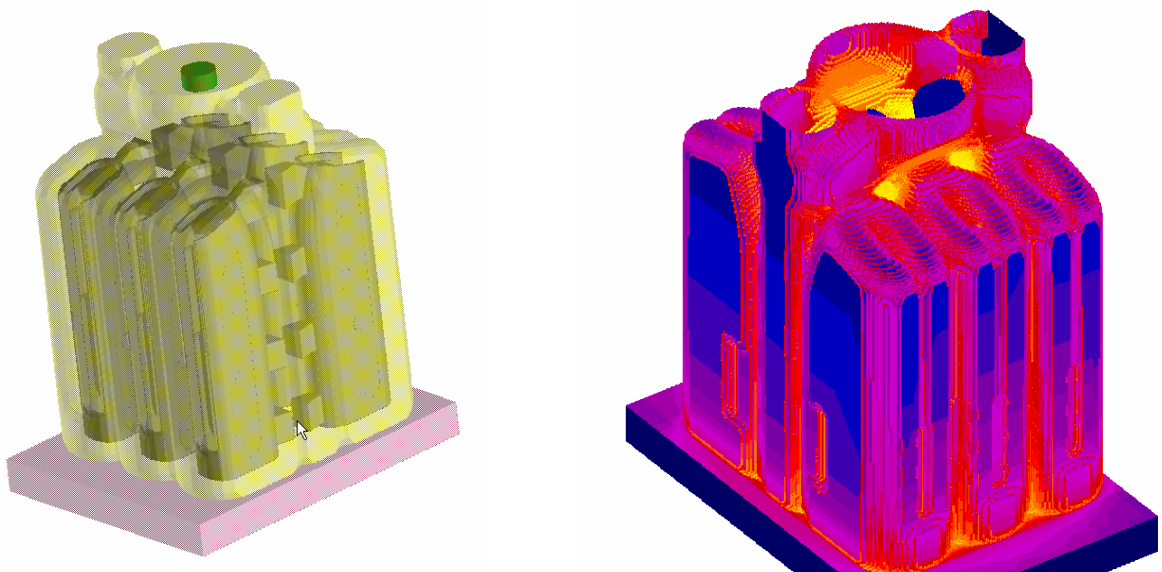

Figure 1. Investment casting tree in a sand bed(left), and radiation view factor calculation(right).
- Use View Factor Calculations to take radiation into account – The External HTC is increased to show the effect of a hot shell, but it does not show the variation in radiation from different parts of the shell. Radiation is based on temperature difference, and, if two parts of a hot shell are facing each other, then the radiation heat transfer will be reduced. The View Factor Calculation looks at each shell position and adjusts the External HTC at that point, based on the ‘view’ at that point. For example, an internal pocket in the shell will see almost all hot shell, so will therefore have a low External HTC. On the other hand, a point on the outside edge of the shell will see mainly foundry air, so will therefore have a high External HTC. A view factor calculation is illustrated below in Figure 1: